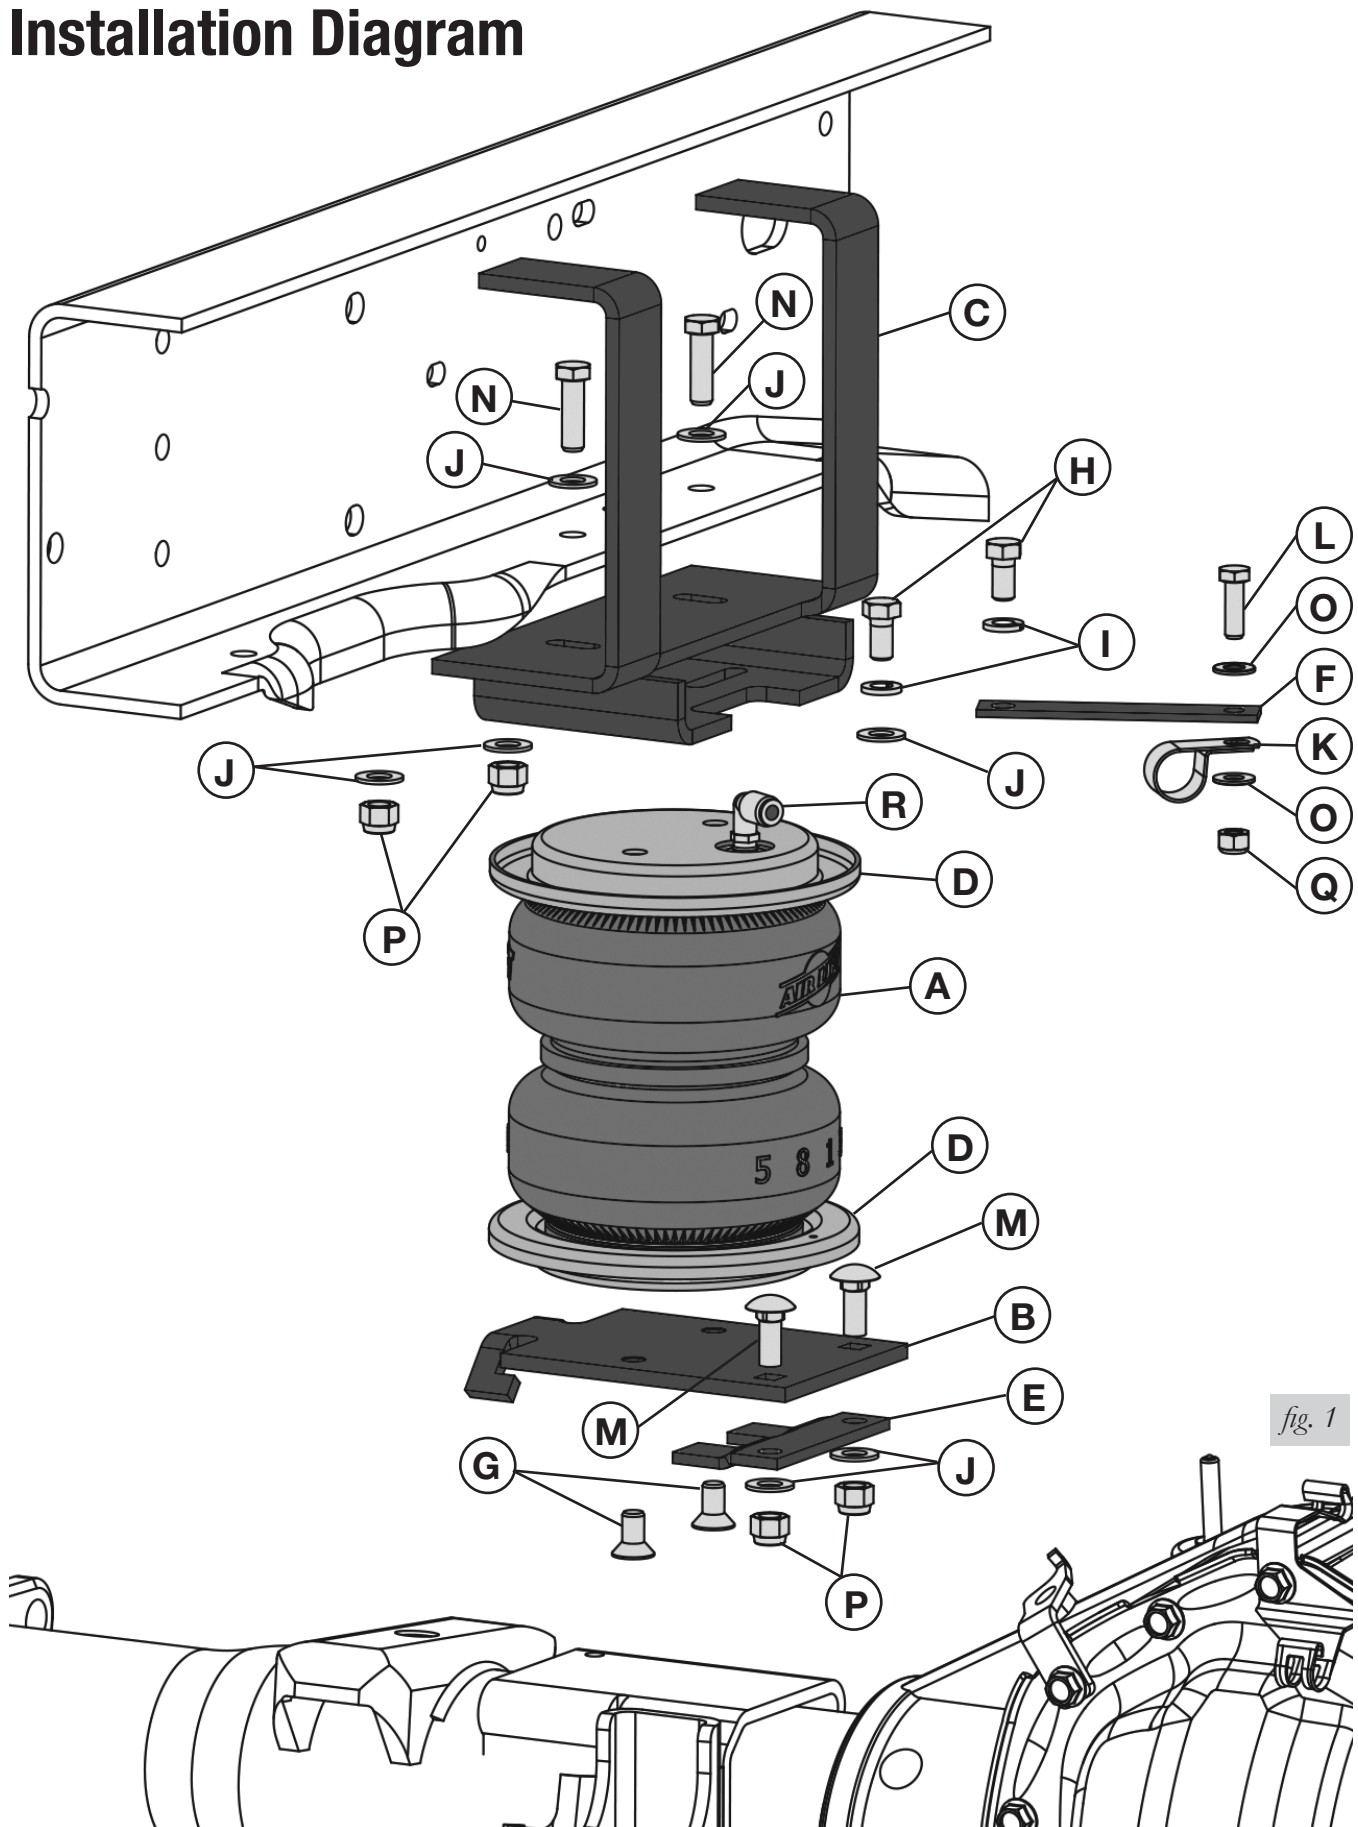

fig. 1
1. Set the roll plates (D) on both sides of the air spring (A). The radius (rounded edge) of the roll plate will be toward the air spring, so both ends are seated in both roll plates (Fig. 1).
2. Install the 90-degree swivel elbow fitting (R) to the top of the air spring (A). Tighten finger tight plus 1 1/2 turns. Be careful to only tighten on the hex nut. Do not over tighten.